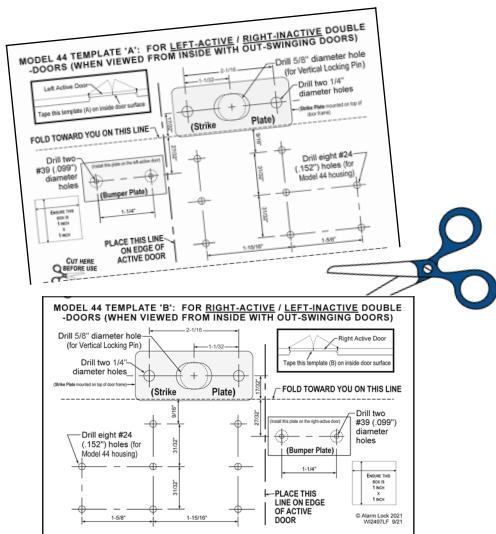

Fig. 4: Cut template in half
- Cut the template in half (on the center horizontal dotted line; see Fig. 4).